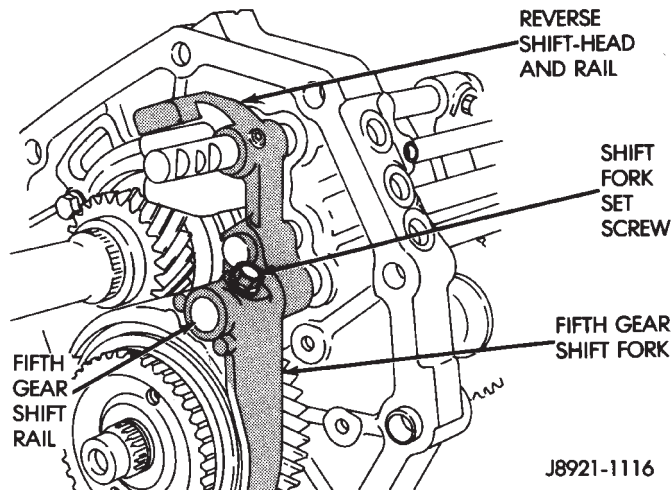

Fig. 108 Shift Fork Set Screw Installation
(12) Align screw holes in shift fork and rail and install set screw (Fig. 108). Tighten screw to 20 N·m (15 ft. lbs.) torque.